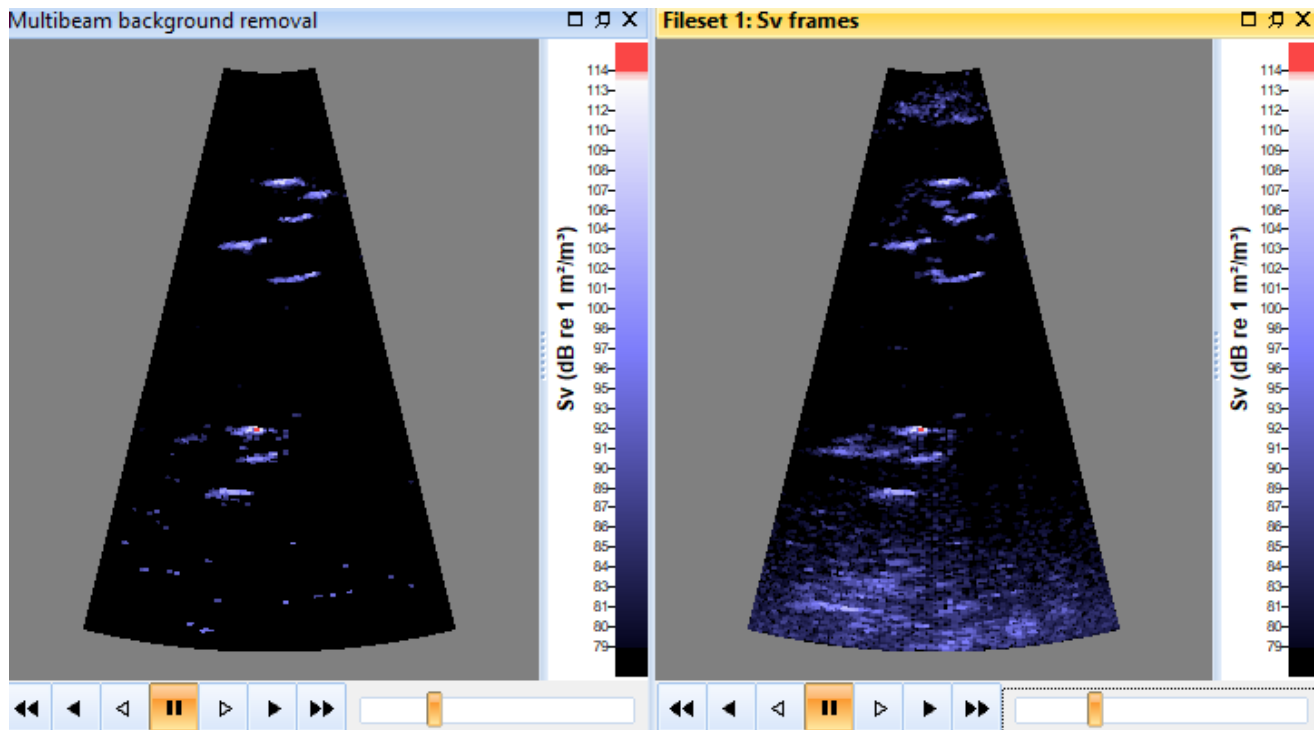

Figure 4. Sv frames and Multibeam Background Removal echograms (ping 34).
53. Use the DVD controls to view ping 34. Press A to synchronize the echograms. The Multibeam Background Removal operator has removed stationary objects, slowly moving objects and some noise, whilst leaving behind the fish moving through the beams, as shown in Figure 4 below.